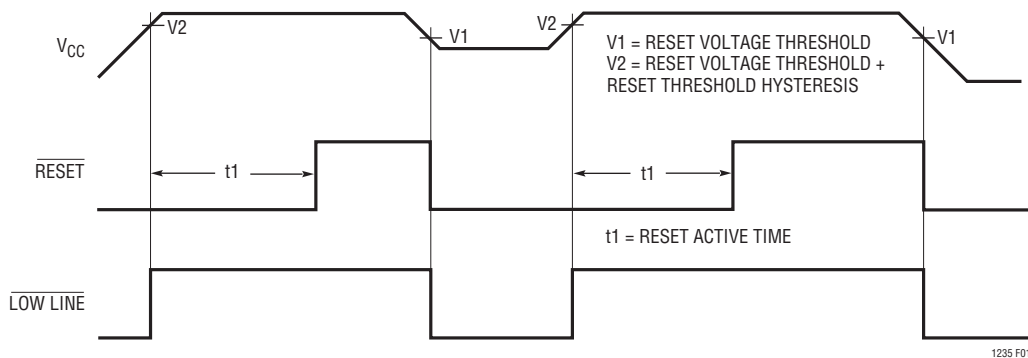

Figure 1. Reset Active Time
**LOW LINE (Pin 6):** Logic output from comparator C1. LOW LINE indicates a low line condition at the VCC input. When VCC falls below the reset voltage threshold (4.65V typically), LOW LINE goes low. As soon as VCC rises above the reset voltage threshold, LOW LINE returns high (see Figure 1). LOW LINE goes low when VCC drops below VBATT (see Table 1).
The LTC1235 uses a bandgap voltage reference and a precision voltage comparator C1 to monitor the 5V supply input on  $V_{CC}$  (see Block Diagram). When  $V_{CC}$  falls below the reset voltage threshold, the reset outputs are forced to active states. The reset voltage threshold accounts for a 5% variation on  $V_{CC}$ , so the reset outputs become active when  $V_{CC}$  falls below 4.75V (4.65V typical). On power-up, the reset signals are held active states for a minimum of 140ms after the reset voltage threshold is reached to allow the power supply and microprocessor to stabilize. On power-down, the  $\overline{\text{RESET}}$  signal remains active low even with  $V_{CC}$  as low as 1V. This capability helps hold the microprocessor in stable shutdown condition. Figure 1 shows the timing diagram of the  $\overline{\text{RESET}}$  signal.